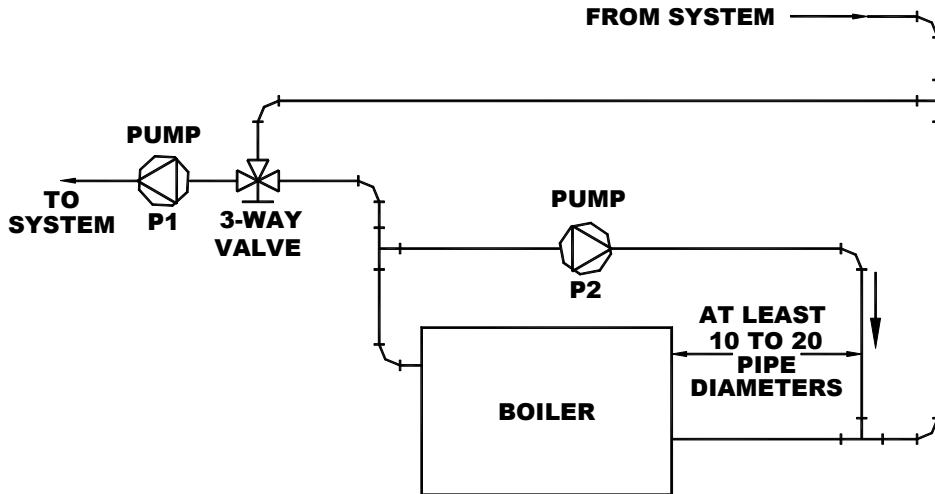

Figure 1
1. Use by-pass piping arrangement – See Figure 1 or 2.